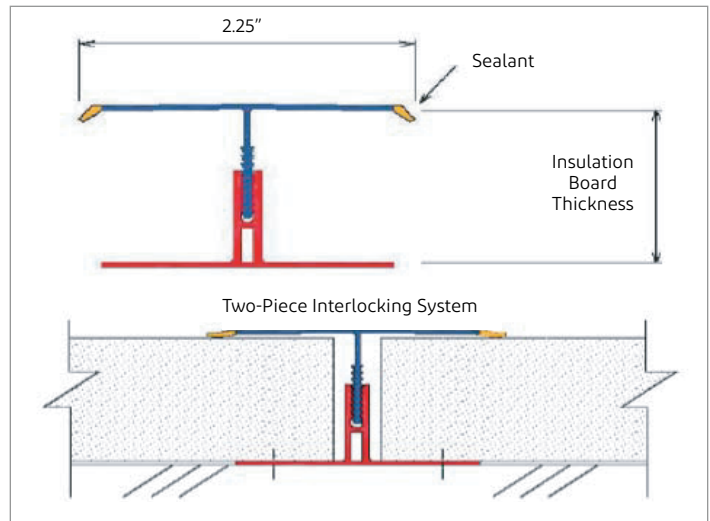

Figure 3
6. Guide the top PVC section along the insulation board until it snaps into the interlocking system base (Figure 3).